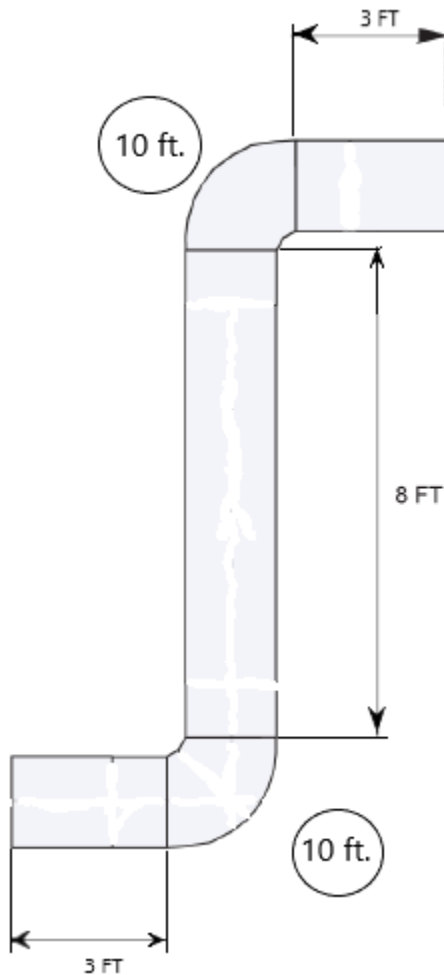

Figure 13. Effective duct length
Duct fitting equivalent lengths values vary for such things as; square, round, material type, angle, radius. For the example shown in Figure 13 we have used an equivalent of 10 ft for each 90 elbow which is a common value for 90-degree elbows. Assuming the louver that gets used is over sized to give the necessary equivalent free are of the duct we will not need to compensate for it. Therefore, lengths of the straight duct plus the equivalent length of the two elbows would give us an effective duct length of 34 ft Because the effective length of the duct is greater than 20 ft the size of the duct will need to be increased by one size over that required by the Code tables.
- Figure 13. “Effective duct length” by Camosun College is licensed under a CC BY-NC-SA licence (<https://creativecommons.org/licenses/by-nc-sa/4.0/deed.en>).